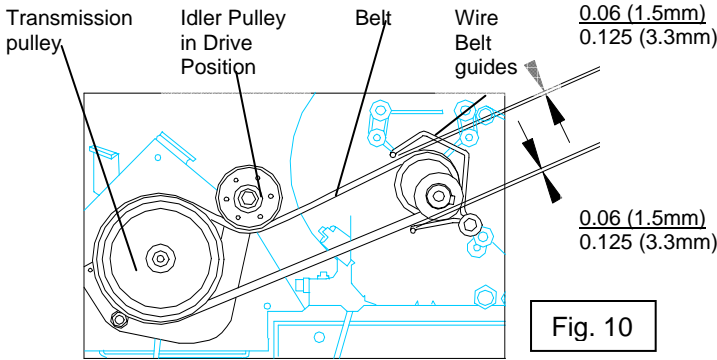

Fig. 10
14. When impeller is installed, slide belt into drive pulley and adjust wire belt guide as shown on page 9 see fig. 10 & 11).
**Belt Adjustment:** As V-belt wears, adjustments may be required. Adjust by tightening or by loosening clutch cable nut as required. When replacing the belt, the impeller must be removed. See instructions on page 12. See parts list for impeller bolt torque specifications. See figure 10 & 11 for proper belt tension adjustment. If cable cannot be adjusted to provide proper belt tension then belt must be replaced. **DO NOT OVER ADJUST.**